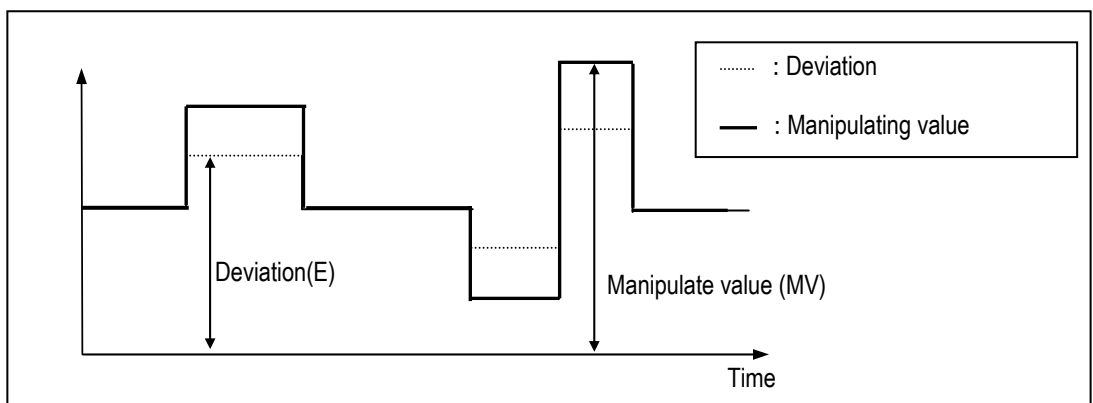

Fig 7.1 MV by P operation
- (c) E happens, MV by P operation is like Fig.7.1